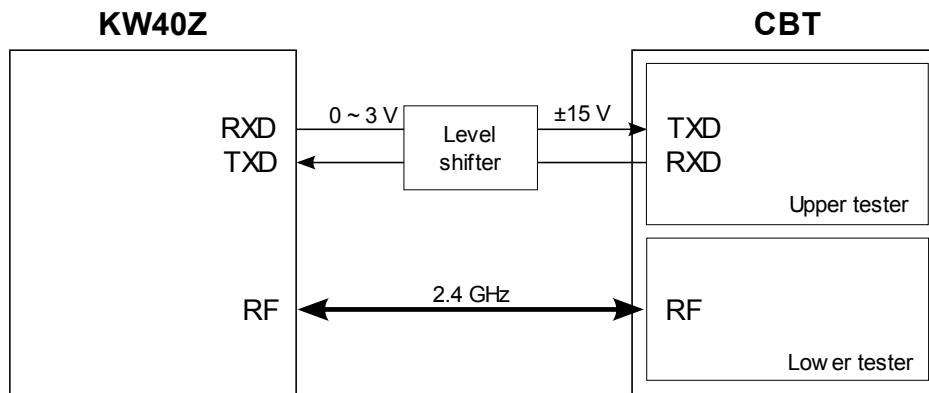

Figure 1. Hardware setup diagram
Figure 1 shows the hardware setup of the PHY testing using the KW40Z DTM. The R & S CBT Bluetooth Tester (referred to as CBT) is used. A level shifter is required to interface between the CBT RS-232 and the MKW40Z UART, and to properly translate the voltage levels. The Linear Technology LTC2804 RS-232 transceivers are used. The RF port of the KW40Z is connected to the CBT RF port using the RF cable for PHY testing.
- On the CBT, select “Connect. Control” in the upper right corner (Figure 1). A new window appears. In this window, you can enable the test mode and modify various parameters to suit various test configurations. Make sure the “Connection” tab is selected (it is located in the bottom left corner of the display).